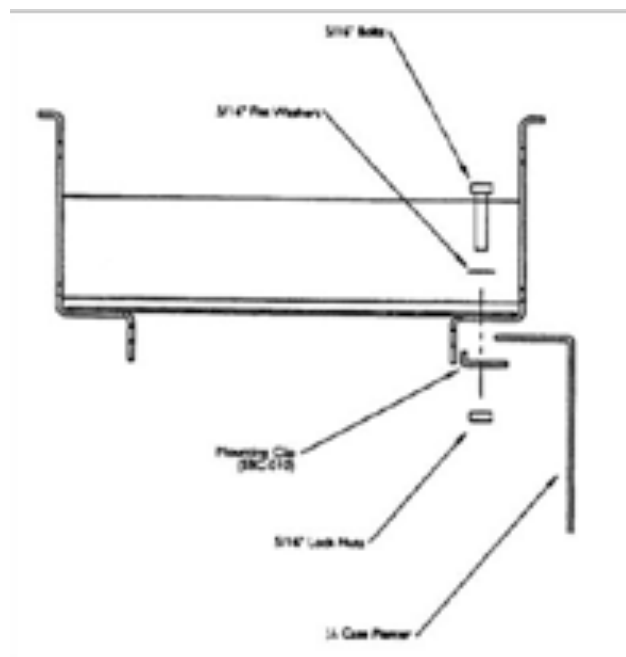

Figure 7
2. Orient SmartBox[®] cradle as shown (see Figure 7).